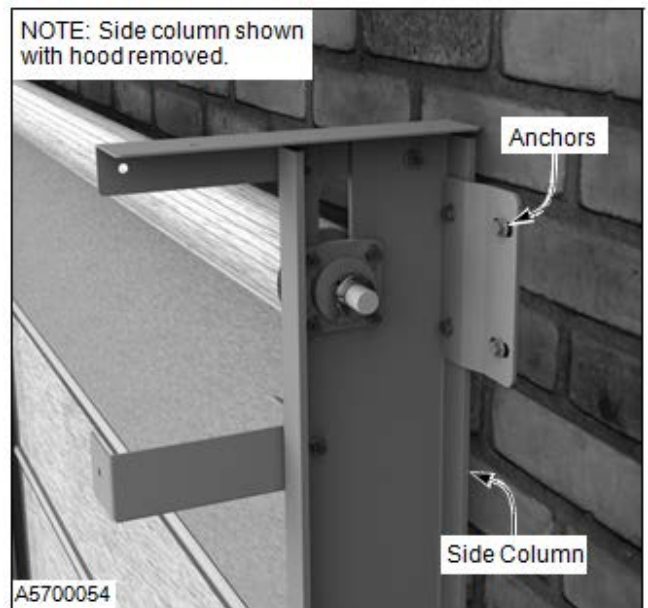

Figure 61
3. Inspect for loose or worn anchor(s). (See Figure 61)